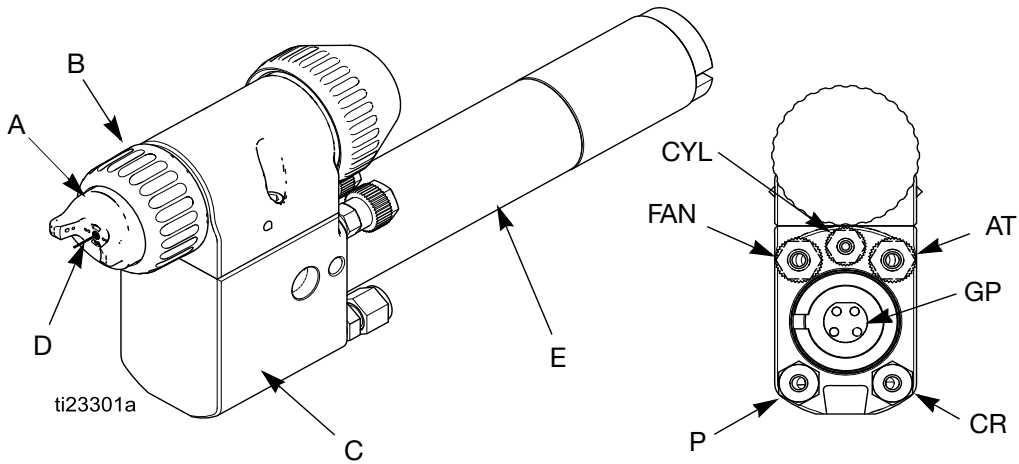

FIG. 1 Gun Overview with Rear Mount
The automatic electrostatic air spray gun operates very similar to a traditional air spray gun. The atomization and fan air are emitted from the air cap (A). See FIG. 1, page 8.
The controller sends power to the power supply (E), which increases the voltage to the level set at the controller. The electrostatics enter the manifold (C) and is directed to the gun electrode (D). The fluid is charged by the spray gun electrode. The charged fluid is attracted to the nearest grounded object, wrapping around and evenly coating all surfaces. See FIG. 1, page 8.